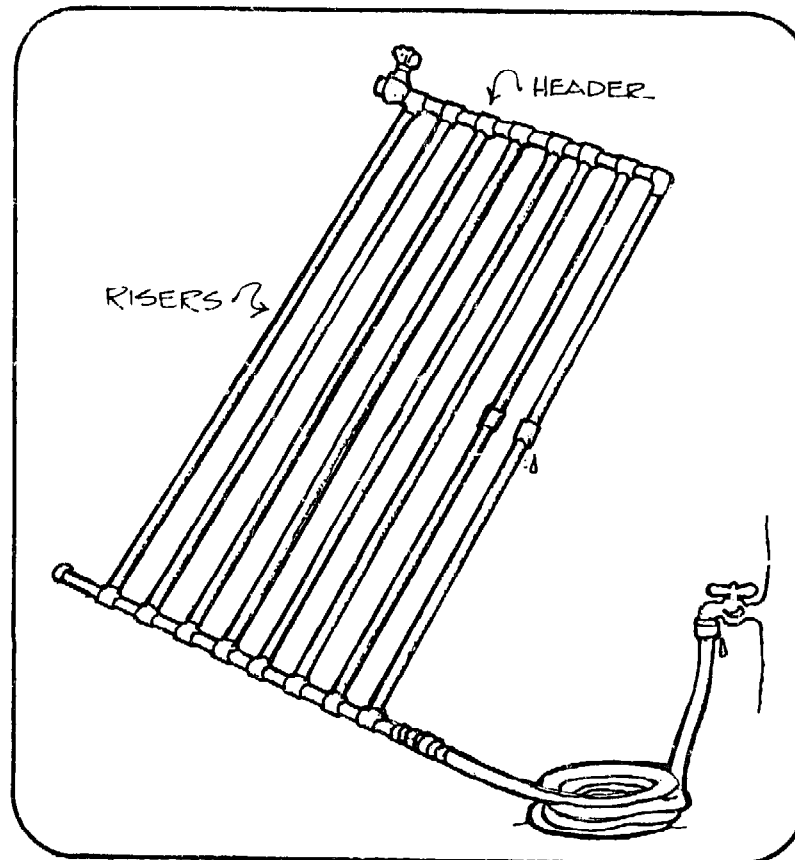

Figure 9
- 7.1 Place pipes from Step 6 in every other valley of the corrugated sheet. Measure between tees to check nipple length -- usually 4 3/4" works perfectly, allowing for socket distance inside tees. Cut, clean, ream and flux 4 3/4" nipples and fit into tees to form manifold. (See Figure 9 in Step 8)